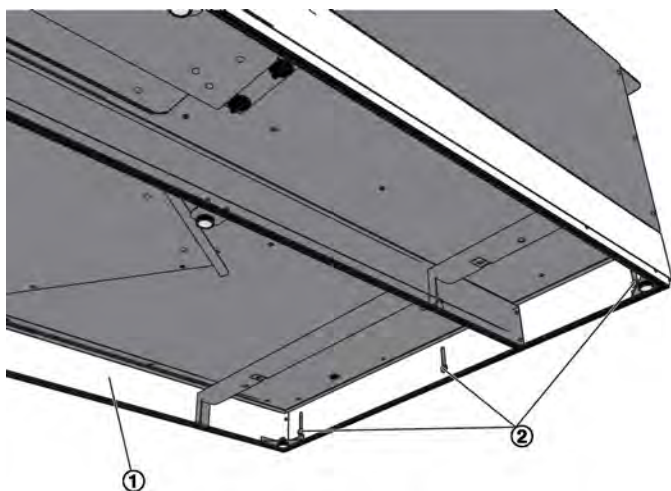

Fig. 7: Frame adjustment
2. ▶ Loosen the 6 screws (Fig. 7 /2) on opposite sides of the frame (Fig. 7 /1). Adjust the height of the frame, then tighten the screws again.